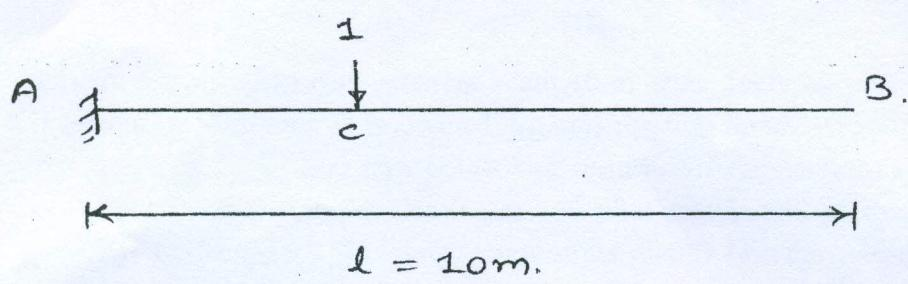

Fig. 12
- (A) State and explain Castigliano's theorems. [5]
- (B) Generate the influence line diagram for R_A and R_B . Ref. fig.12 [5]